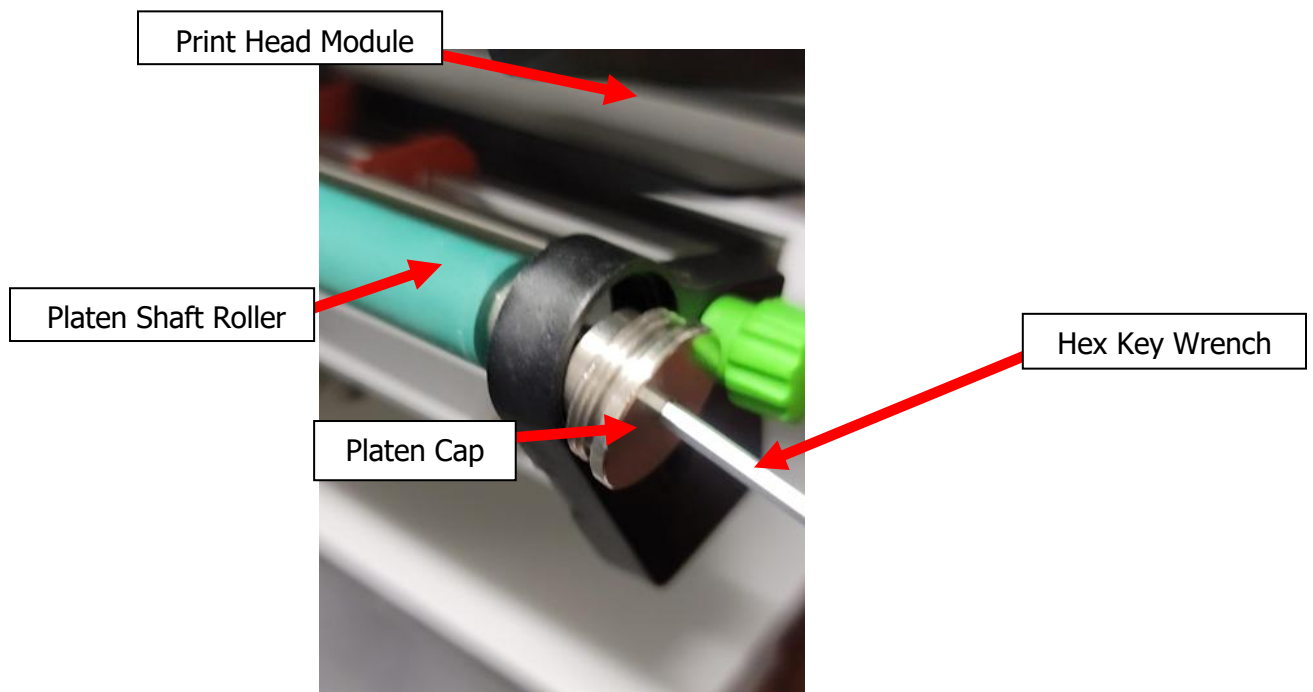

Figure 1
3. Locate the **Platen Shaft Roller** which is directly below the **Print Head Module** (see Figure 1)
4. With the included hex key wrench, loosen then remove the **Platen Cap** (Figure 1). This will release the platen from its mounting position.